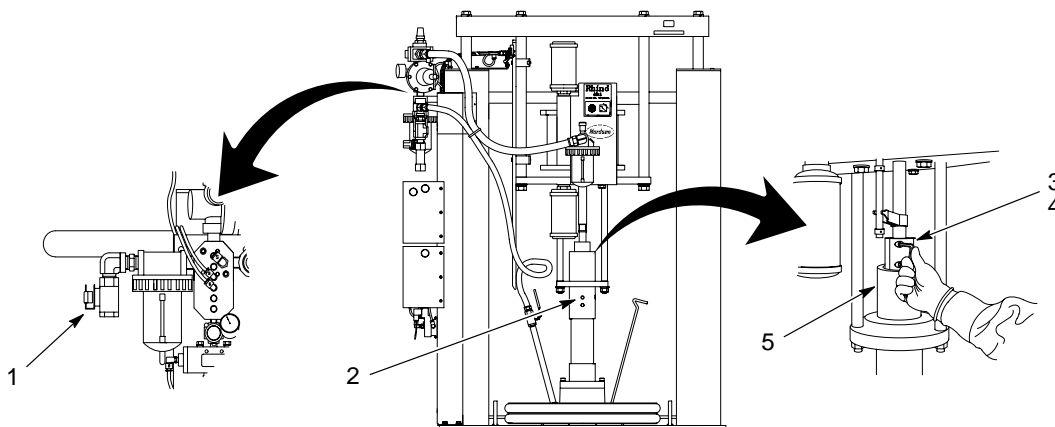

Figure 1 Typical Rhino Unloader
- See Figures 1 and 2 to locate components.